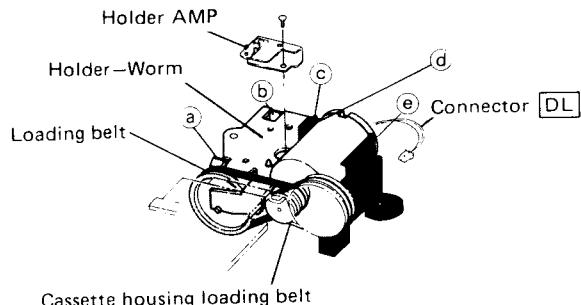

Fig. 3-10
- 2) Remove the holder AMP with retaining screw as shown in Fig. 3-10.
- 4) Remove the cassette housing loading belt as shown in Fig. 3-10.
- 5) Remove the loading belt as shown in Fig. 3-10.
- 6) Unlock the three supports (Ⓐ, Ⓑ and Ⓒ) shown in Fig. 3-10 and remove the holder-worm.
- 7) Unlock the two Motor supports (Ⓓ and Ⓒ) as shown in Fig. 3-10 and remove the loading motor.